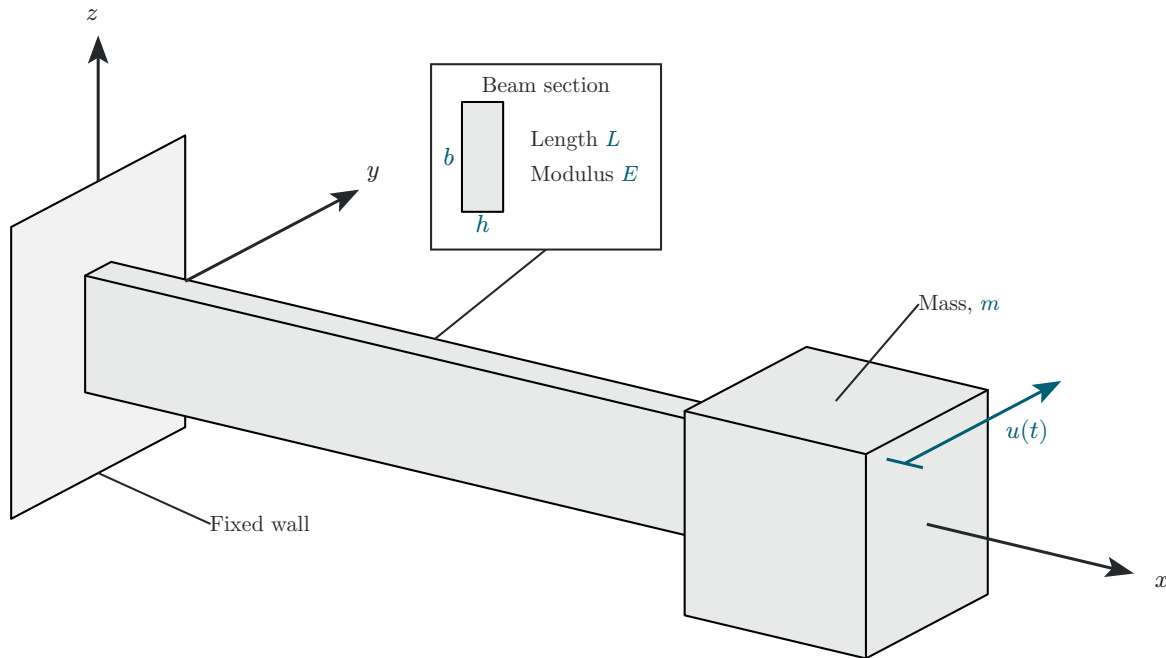

Figure 14: Horizontal flex-beam vibrating system.
Consider a cantilever beam of length L with a mass m attached at its tip as shown in Figure 14. The beam cross-section properties are E , h , b .
- (1) Assume vibration with horizontal time-varying displacement $u(t)$ as shown in Figure 14.
- (2) Calculate the cross-sectional stiffness EI of the beam for flexural deformation consistent with $u(t)$.
- (3) Calculate the flex-beam spring constant k .
- (4) Draw free-body diagram (FBD) including all the forces acting on the mass m .
- (5) Deduce equation of motion (EOM).
- (6) Compare the EOM deduced here with the EOM derived in Problem B.1.
- (7) Solve the initial value problem (IVP) and find the response for simultaneous application of both initial displacement u_0 and initial velocity $\dot{u}_0$.